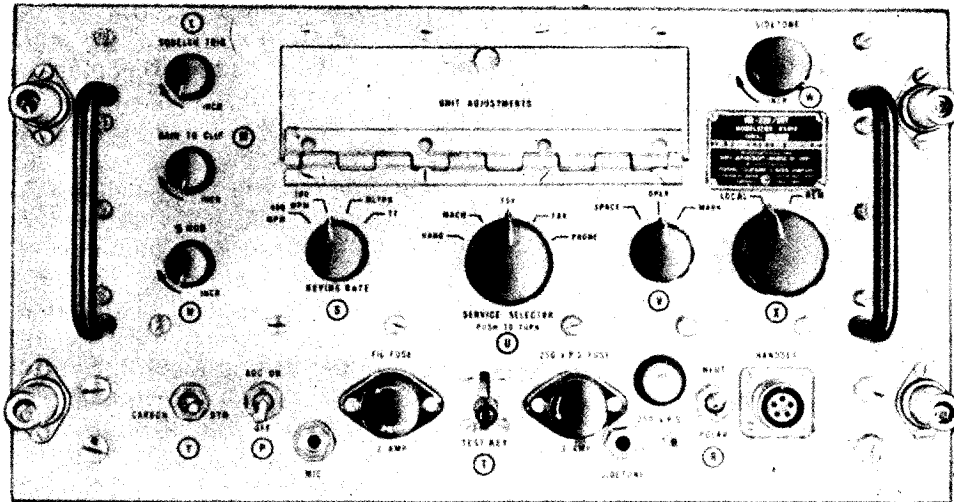

Figure 9-4.—Radio modulator MD-229/SRT (low level modulator LLRM).
The low-level Radio Modulator MD-229/SRT is illustrated in figure 9-4. This unit accepts
+2000 to -500 cycles about the 100-kc value. The frequency-shift oscillator is used in the mixing sequence only when service selector control, U, on the LLRM (fig. 9-4) is set in one of the frequency-shift positions, FSK or FAX.
- c. The -12- and the +250-volt regulated power supplies in the LLRM (fig. 9-4) are energized, and the 250-volt power supply indicator light in the LLRM comes on.
If the standby operate switch, PP, in the LVPS is in the STANDBY position, there will be no plate power and nothing further will happen. Set the standby-operate switch, PP, to OPERATE. If the service selector, U, in the LLRM (fig. 9-4) is set to HAND, the following actions will occur:
The actions indicated in items 1 through 2 will occur when the service selector, U (fig. 9-4) is in the MACH, FSK, and FAX positions only if the keying line is closed. If the service selector is in the PHONE position, these actions will occur only when the press-to-talk button on the phone is depressed.